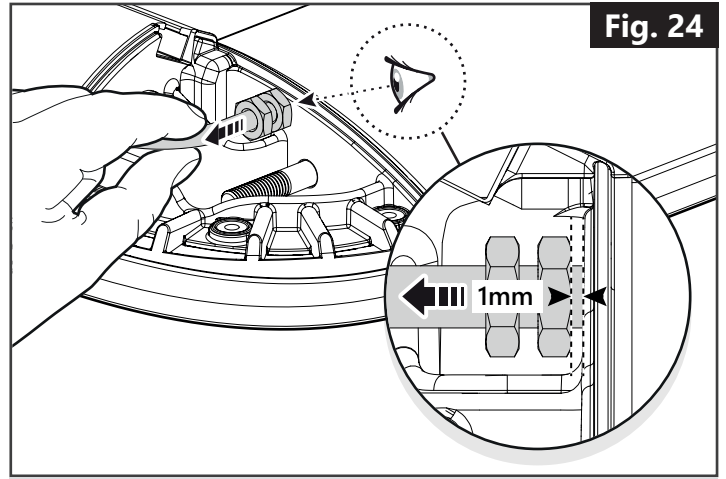

Fig. 24
- 6) Gently pull the cable corner assembly outwards ~1mm. **(Fig. 24)**